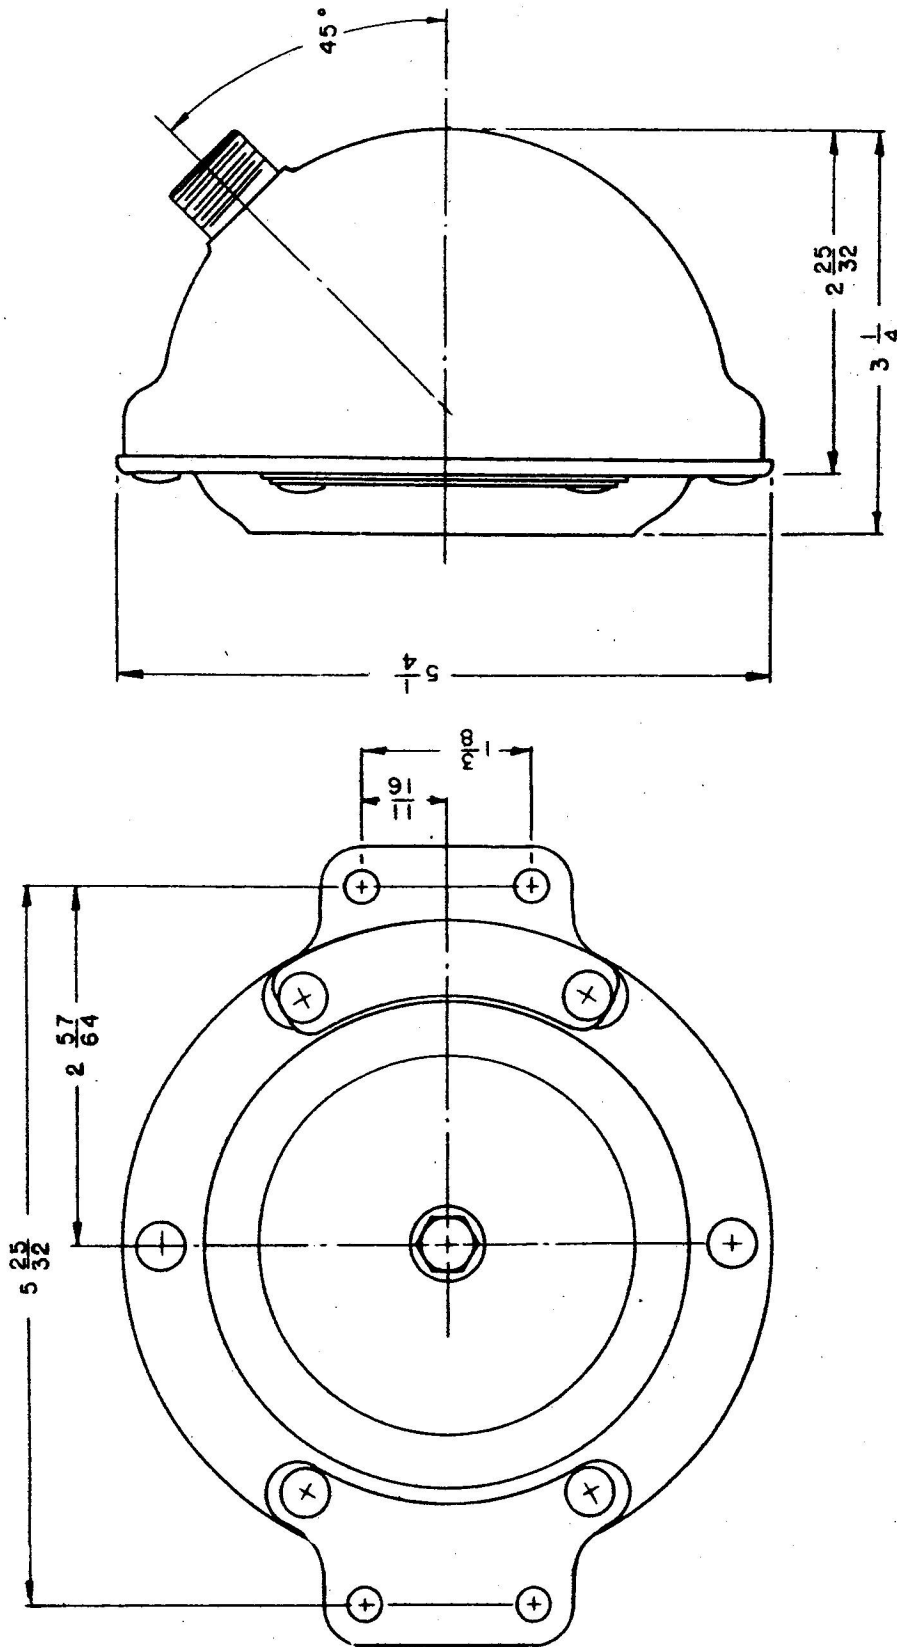

FIG.2-TYPICAL OUTLINE ASSEMBLY TYPES B-4 AND E-2 WARNING SIGNAL
a. Sound Intensity. - 110 decibels at a distance of three (3) feet when operated on 12 volts direct current.
c. Dimensions. - See Figure 2.
a. Sound Intensity. - 110 decibels at a distance of three (3) feet when operated on 24 volts direct current.